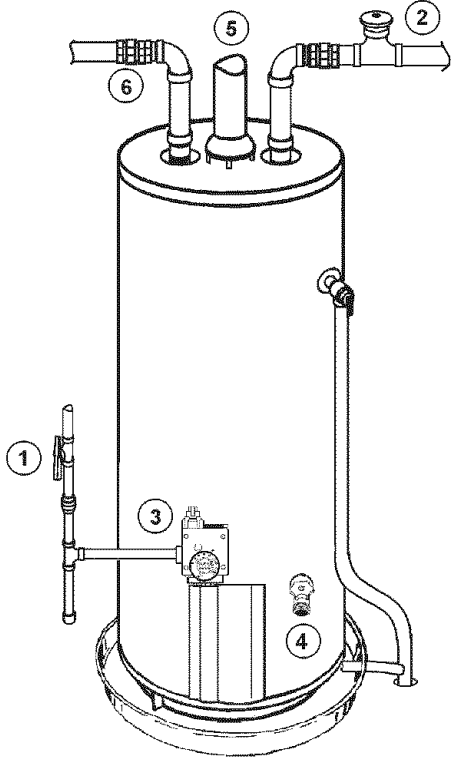

FIGURE 2.
If the main gas line shut-off valve serving all gas appliances is used, also shut "OFF" the gas at each appliance. Leave all gas appliances shut "OFF" until the water heater installation is completed, see Figures 2 and 3.
2. Turn "OFF" the water supply to the water heater at the water shut-off valve or water meter. Some installations require that the water be turned off to the entire house, see Figures 2 and 4.
4. Attach a hose to the water heater drain valve and put the other end in a floor drain or outdoors. Open the water heater drain valve. Open a nearby hot water faucet which will relieve pressure in the water heater and speed draining. The water passing out of the drain valve may be extremely hot. To avoid being scalded, make sure all connections are tight and that the water flow is directed away from any person, see Figures 2 and 5.